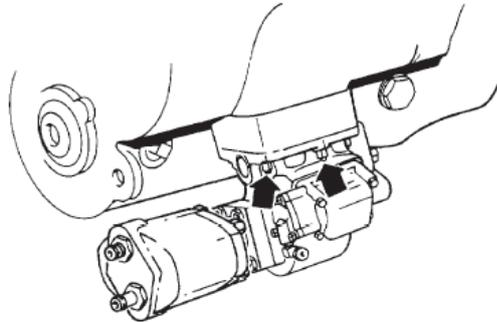

Figure 2 Location of Retaining Nuts
- e. Remove the six nuts and washers securing the PTO and the adapter to the transmission (Figure 2).